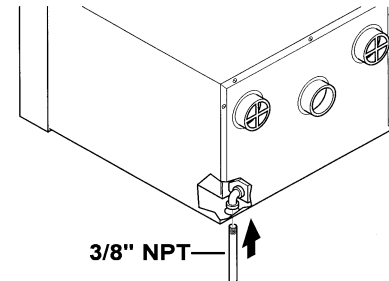

Figure 14 - Inserting Pipe through Knockout Hole
- 11. Run 3/8" pipe or nipple through knockout hole. Connect 3/8" pipe or nipple to manifold elbow (see Figure 14). See *Providing Gas Piping to Furnace* for correct gas pipe installation.